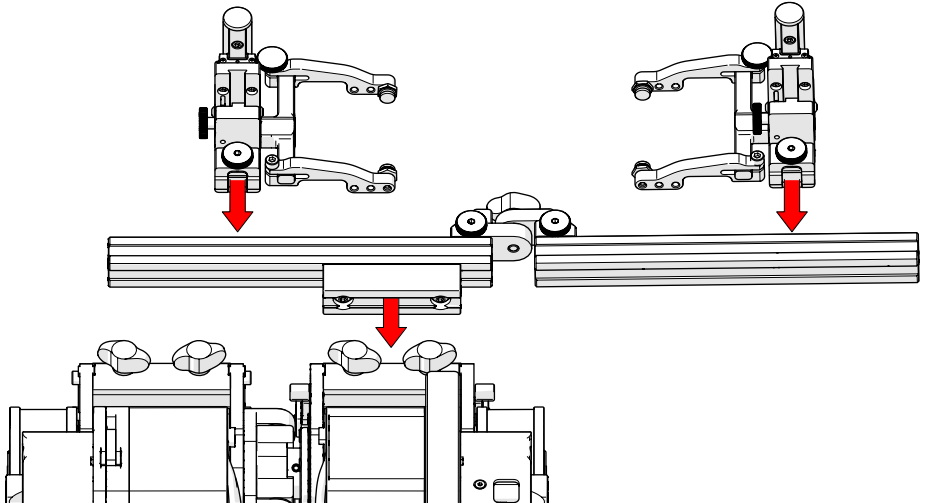

Fig. 249 - Configure assembly and mount to NAVIC
1. Disassemble the pivoting probe holder frame to achieve the setup shown (Fig. 249). Ensure proper placement of the frame bar with attached mounting point in relation to the **NAVIC**.